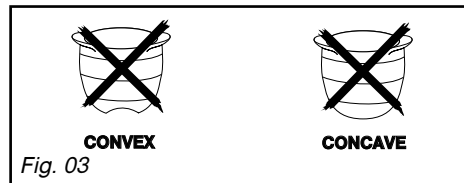

Fig. 03
- Do not use concave or convex cookware without the adequate supports (Fig. 03).